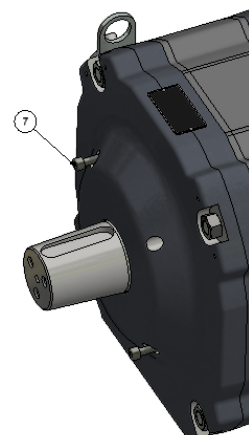

Fig. 6
- Screw the other 2 screws (using Loctite 243) Pos. 7 as per Figure 6 until they begin to resist